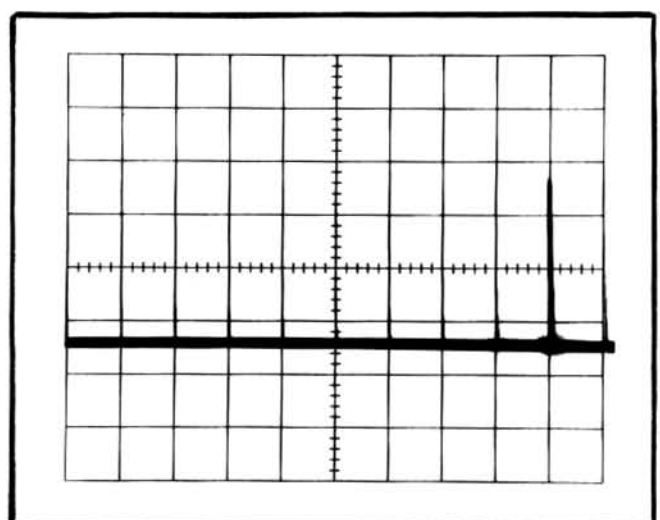

Fig. 5-9. Typical CRT display showing correct setting of delay stop.
f. CHECK—The intensified portion of the sweep starts at the tenth marker (see Fig. 5-9).